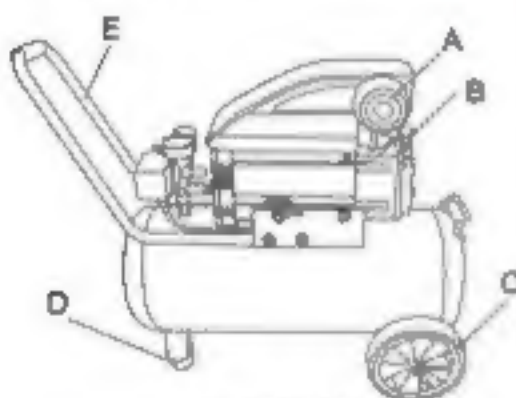

FIGURE 7
Your compressor requires some assembly. Install intake filter (A) Fig. 7 to the cylinder cover. Remove plastic cap and install the oil breather cap (B) to the crankcase cover. Install both wheels (C) using the large hex. bolts, spring washers and hex. nuts supplied. Then install the 2 rubber feet (D) using the small hex. bolts, washers, spring washers and hex. nuts. Install handle (E) and the storage compartment (not shown) to the tank using hex. bolts, washers, spring washers and hex. nuts, where applicable.